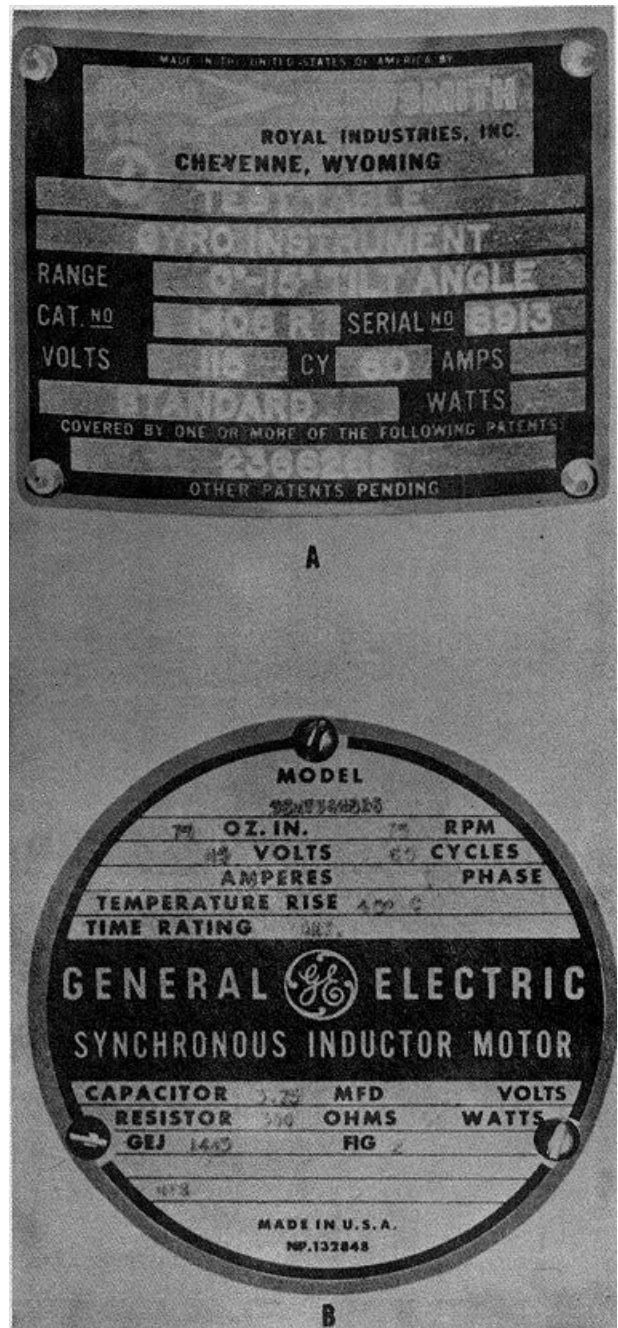

Figure 3. Identification plates.
c. *Identification.* The table assembly has two identification plates. The table assembly identification plate (A, fig. 3) located on the front of the housing below the ON-OFF switch gives the range, catalog no., and electrical specifications. The motor identification plate (B) gives the data on the electrical synchronous induction motor of the unit. This identification plate is located under the table assembly on the motor which is installed in the table frame housing.